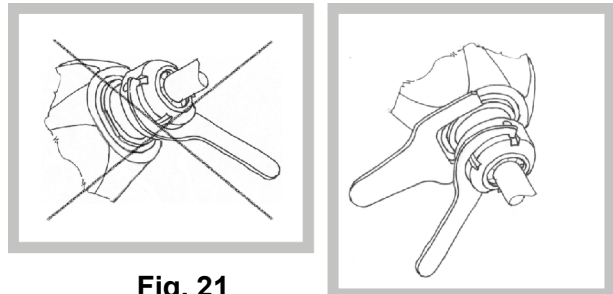

Fig. 21
- Put the necessary tool with straight shank in the collet and tighten firmly the clamping nut by two wrenches supplied in the accessories. The nut shall be tightened by the special wrench while the spindle is held by the open end wrench – Fig. 21.